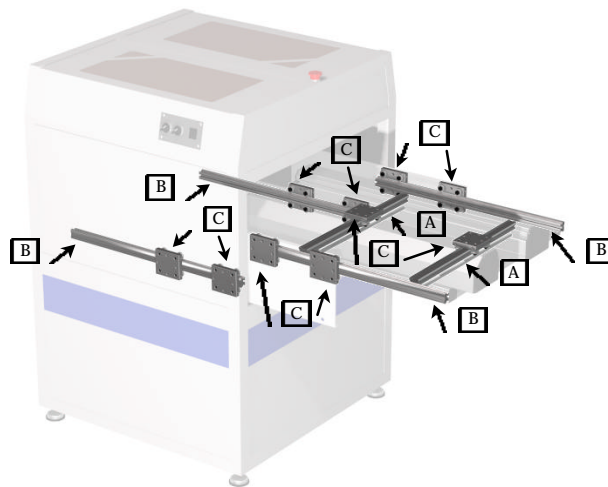

Figure 6-1 Lubrication
- A.** Lubricate the threaded rods and guideways for width adjustment. See Figure 6-1(A). Apply a small amount of lubricant to the entire length of the rod, and both sides of the guide. Drive the moving rail to both end positions when lubrication is done.
- B.** Lubricate the four guideways that hold the conveyor assembly. See Figure 6-1(B). Apply a small amount of lubricant to the entire length and both sides of the bars.
- C.** Lubricate the 10 linear carriages. See Figure 6-1(C). Apply a small amount of lubricant to the surface of the carriages wheels.